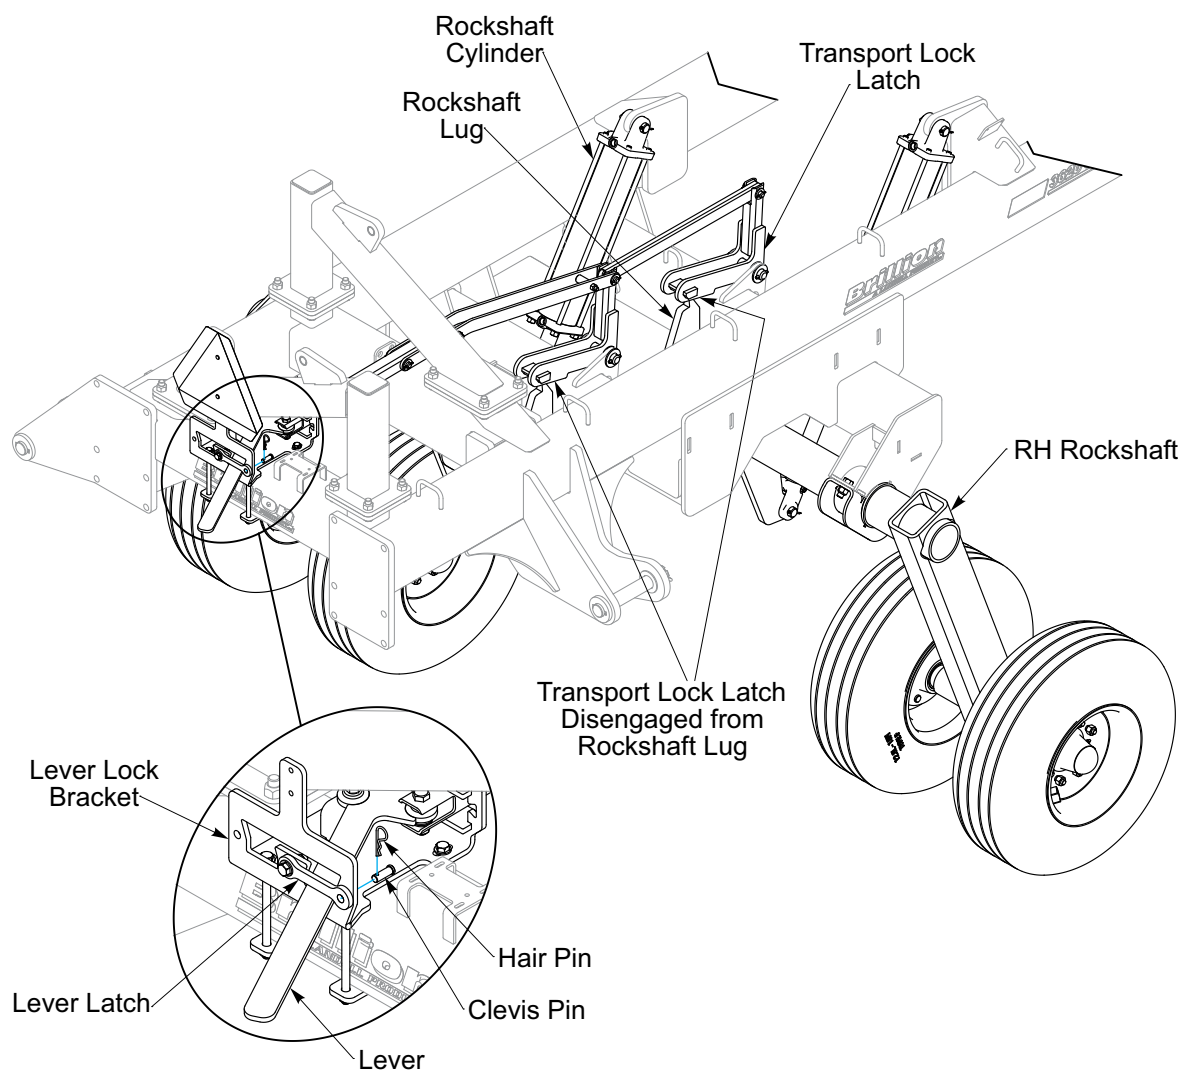

Figure 3-6: Transport Lock Position - Field
1. Actuate the Lever at the rear of the machine to raise the Transport Locks to Field Position. **See Figure 3-6.**
1. Remove Clevis Pin and Hair Pin from Lever Latch at the rear of the machine. **See Figure 3-6.**